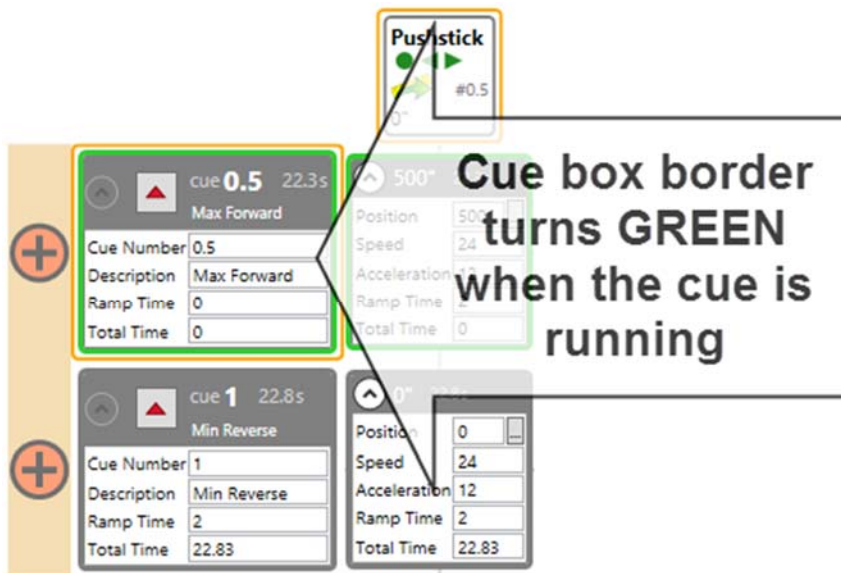

Figure 97
4. As the cue is running, the border around the cue box in the **Cue Grid** turns green (Figure 97).